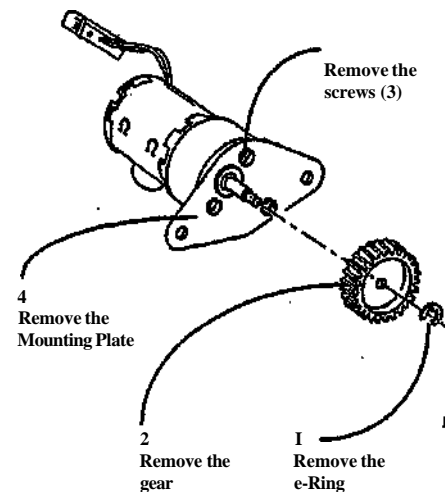

Figure 2. Removing the Cartridge Drive Motor from the Mounting Plate
3. (Figure 2): Remove the Cartridge Drive Motor from the Mounting Plate.